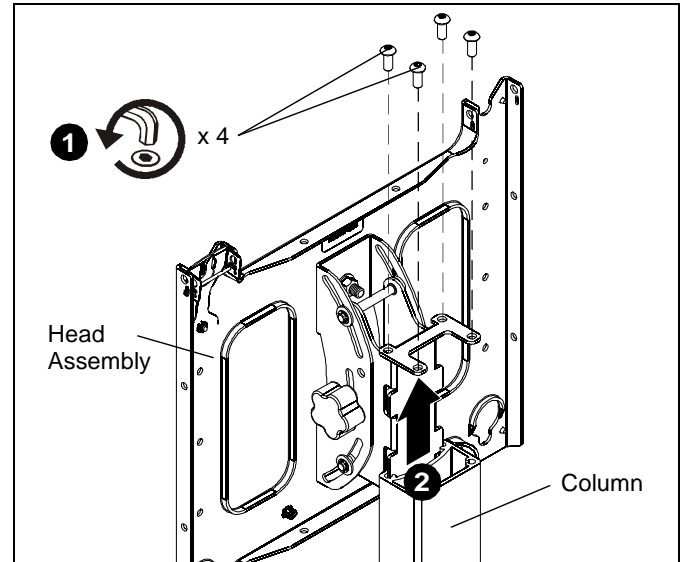

Figure 2
1. Remove and save four button head cap screws from head assembly. (See Figure 2)
2. Slide head assembly up and off the cart or stand column. (See Figure 2)